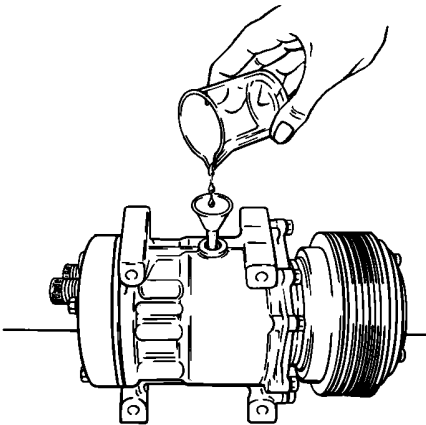

Figure 49 Add New Oil
8. Add new oil to the compressor as determined in OIL FILL GUIDELINES (refer to Figure 49).